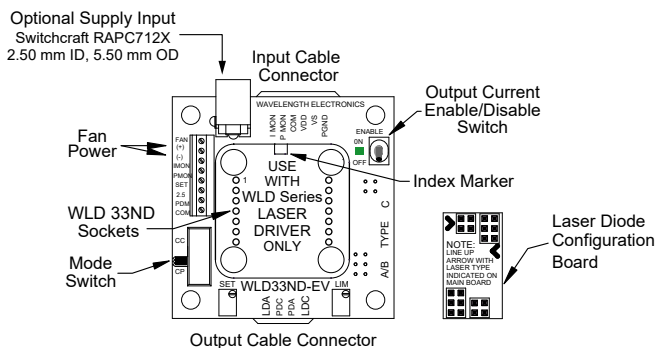

Figure 13. WLD33ND-xxEV Top View
Figure 13 gives a top view of the WLD33ND-xxEV Evaluation Board.
Prior to applying power to the board, use the Mode Switch to choose either CC or CP (**Figure 13**). Ensure that the switch is completely rockered to the chosen end.
**B)** Configure the evaluation board for Constant Current (CC) operation using the Mode Switch.
**C)** Turn the SET trimpot at least twelve turns counter-clockwise (OFF). Adjust the LIM trimpot at least twelve turns clockwise (ON).
**D)** Apply power to the Evaluation Board and enable the output current by switching the enable switch to the “ON” position. See **Figure 13** to locate the switch.
**E)** Adjust the SET trimpot clockwise until the voltmeter displays  $V_{LIMIT}$  calculated in **Equation (14)**. Next, turn the LIM trimpot counter-clockwise until the displayed voltage just begins to decrease. Finally, turn the SET trimpot fully counter-clockwise to zero the output current.